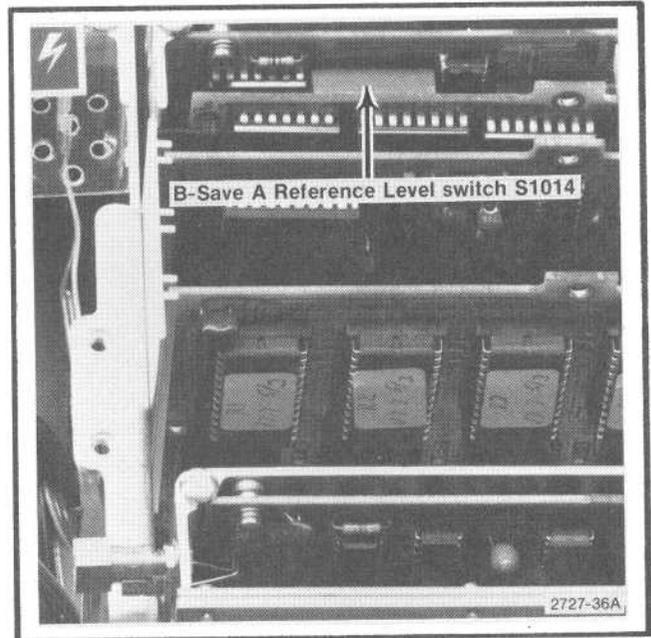

Fig. 3-43. Location of binary switch (S1014) for setting B—SAVE A reference level.
When B—SAVE A is selected, the expression implemented is  $(B - \text{SAVE } A) - k$  where  $k$  is a constant set by the input data for an 8-to-4 line encoder, U1015. Each bit will move the reference level about 0.2 minor division. Normally, the reference level is set at the center graticule line; however, it can be set anywhere within the graticule area by the setting of an 8-bit binary switch, S1014 (Fig. 3-43). The MSB (switch #8) shifts the display about five divisions, switch #7 half this amount, etc. The following procedure sets the reference level.
b. Switch the POWER on and close or open the switches on S1014 (Fig. 3-43) to obtain the desired B—SAVE A reference level.